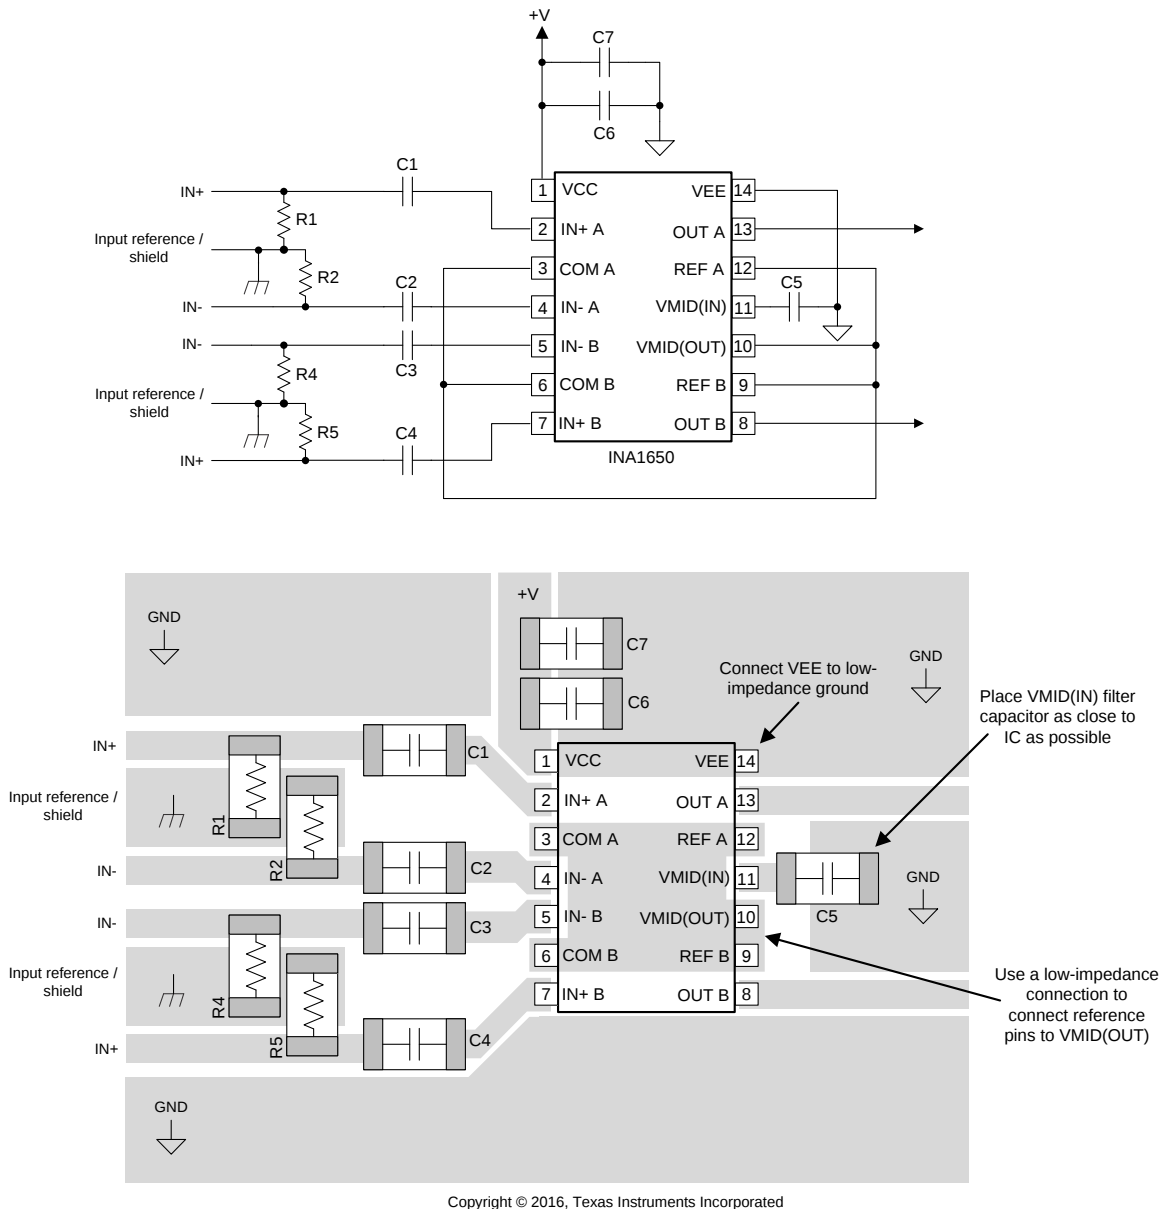

图 64. Layout Example for a Single-Supply Line Receiver
- Place the external components as close to the device as possible, as shown in Figure 63 and Figure 64.